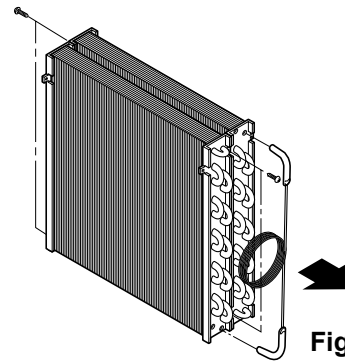

Figure 28
7. Unbraid the capillary tube at the connections of the condenser and evaporator. (See Figure 28)
8. Remove 4 screws between the condenser and evaporator. (See Figure 28)